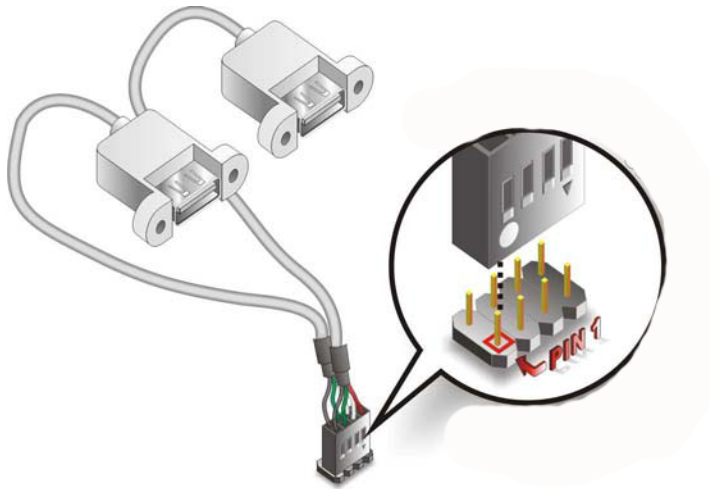

Figure 5-19: Dual USB Cable Connection
Step 3: Insert the cable connectors . Once the cable connectors are properly aligned with the USB connectors on the 3308440, connect the cable connectors to the on-board connectors. See Figure 5-19 .